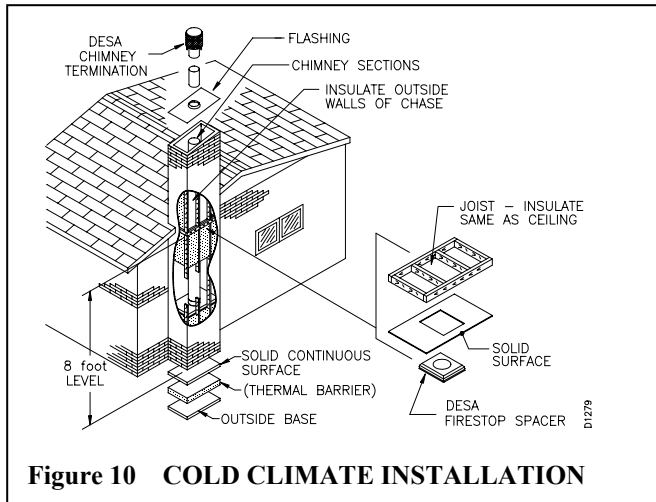

Figure 10 COLD CLIMATE INSTALLATION
3. Insulate the walls of the chase, both on the outer and interior partitioning wall (see figure 10). Clearances from pipe to insulating materials must be maintained.